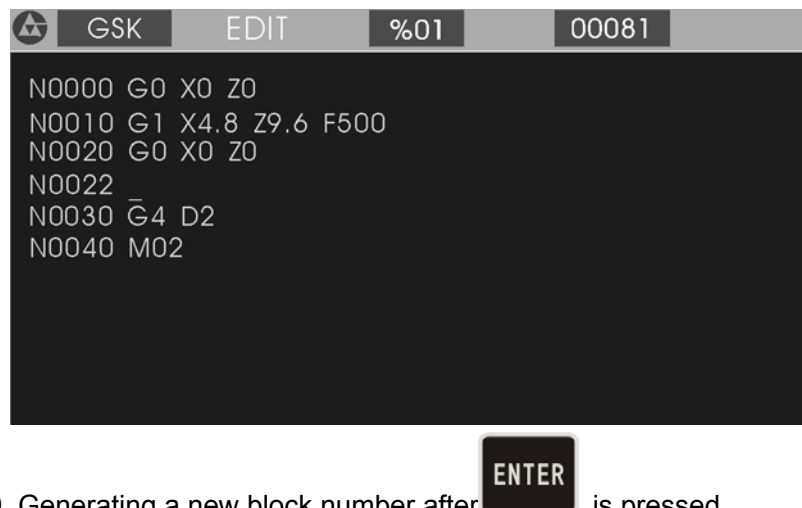
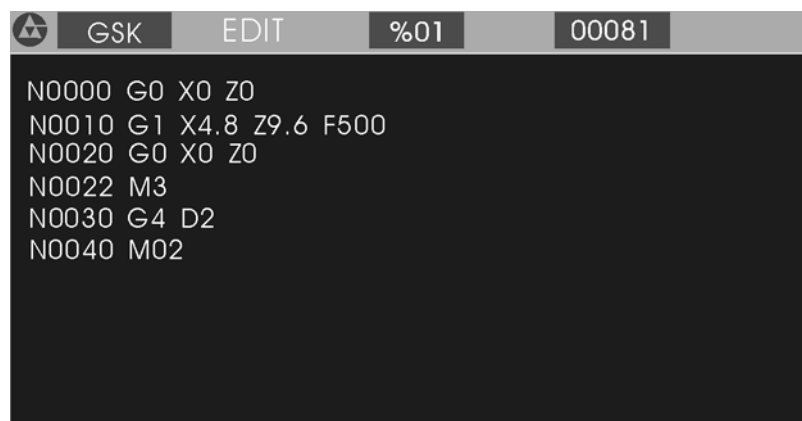

Fig 9. Generating a new block number after **ENTER** is pressed
Fig. 10 Input and end the insertion
- (1) Press   to move the cursor to , and press  to move the cursor to the behind of **Z0.0**.
- (2) Press , and the system will automatically generate one block number and blank a block to display  as Fig. 9. The cursor points to the first input character of the new block.
- (3) Input  .
- (4) The inserting is completed as Fig. 10.